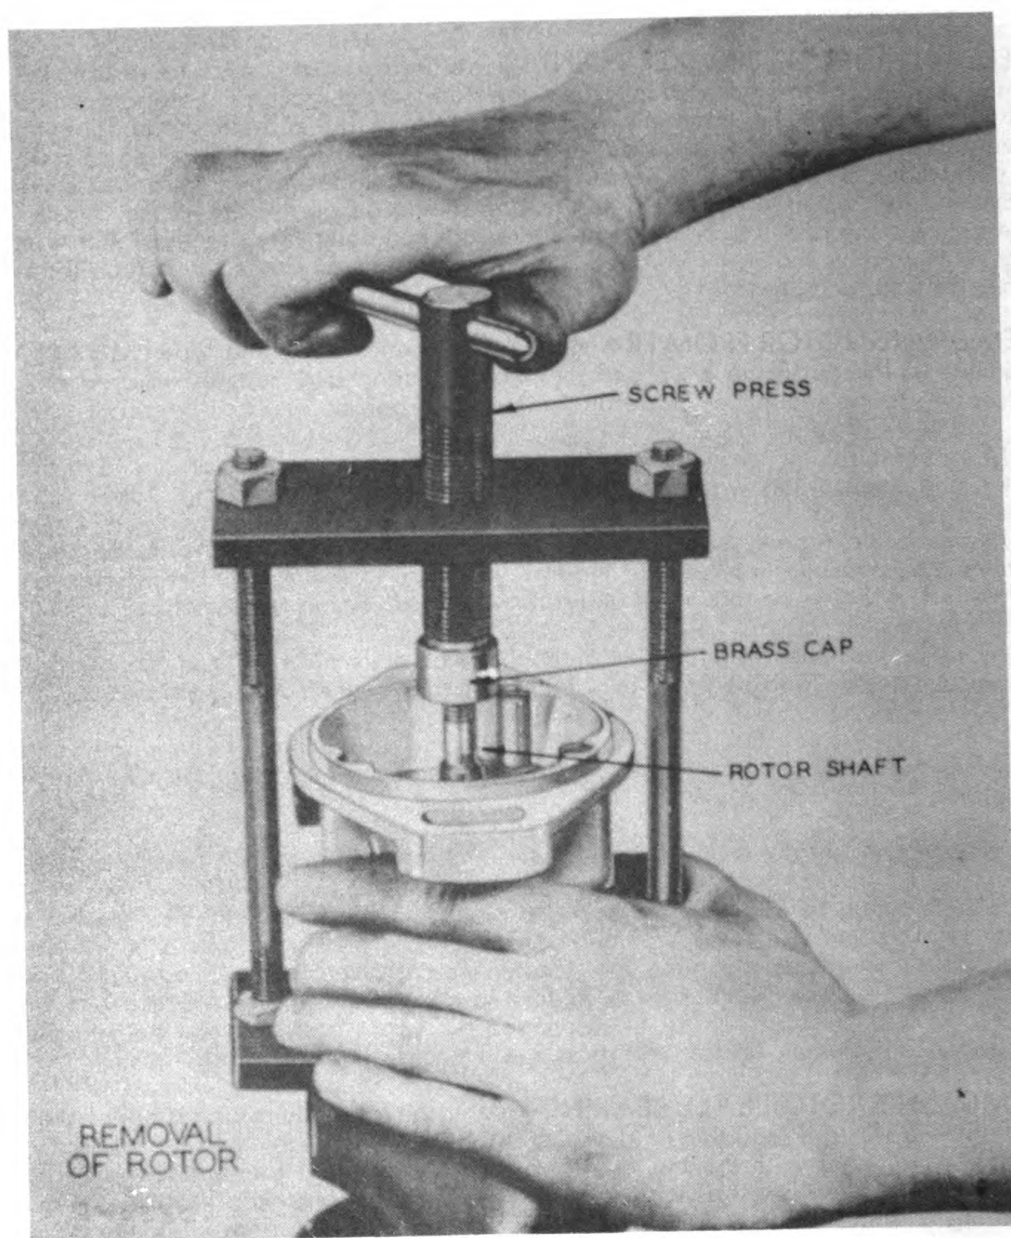

Fig. 140
- (f) The magneto assembly should now be placed in the screw press as shown in (Fig. 140). Center the distributor end of the rotor in the large hole of the lower plate of the press and place the brass protective cap over the threaded end of the rotor shaft. Apply an even pressure by turning down slowly the drive screw of the press. As soon as the rotor has been pressed out of the ball bearing, the magneto assembly can be removed from the press and the rotor lifted out of the frame.